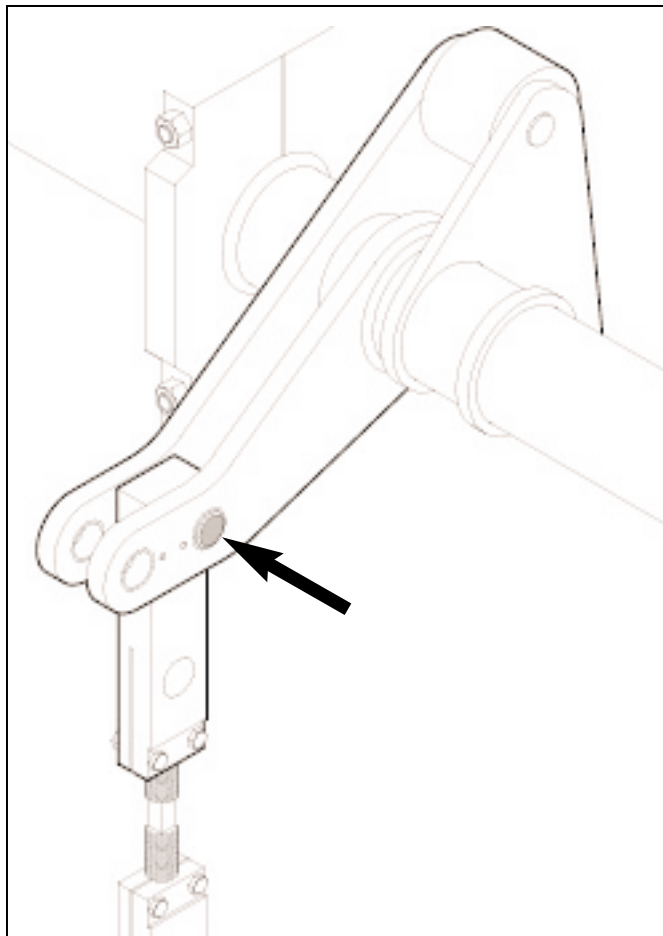

Figure 4.39 ADJUSTING STRIPPER HEAD ARMS
4.3.15 Position the pins in the inner holes of the stripper head shaft arms (see figure 4.39).